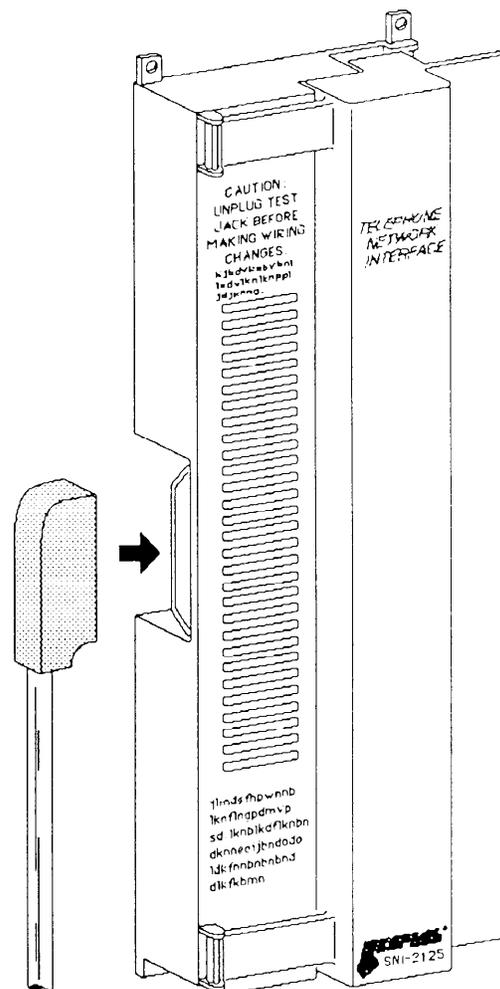

Fig. 3—Connecting 25-pair cable to the SNI-2125
3.03 Attach telco lines via RJ-21 standard orientation male connector on side of unit (refer to figure 3). Secure connector using retainer strap provided.
3.07 Using the four #8 screws provided, mount the Auxiliary Mount Brackets to the back of the SNI-2125 as indicated in figure 3.